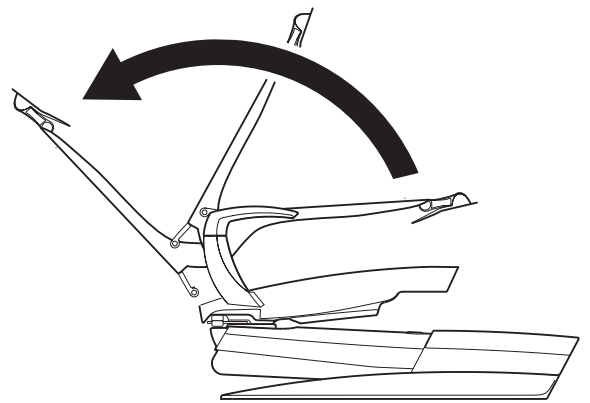

Figure 9. Rotating the backrest
- 3** Rotate the backrest into position (Figure 9) by aligning the backrest bottom holes to the holes in the link bar which extends from the upper hydraulic assembly.